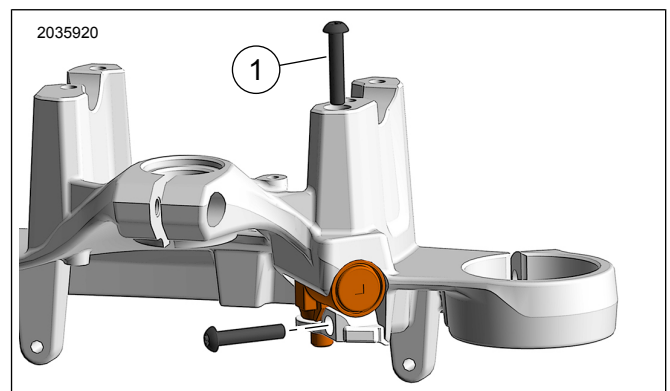

Figure 9.
- a. See Figure 9. Use **new** screw (Part No. 10200925) supplied in recall kit for installation of fork lock to **new** upper triple tree.